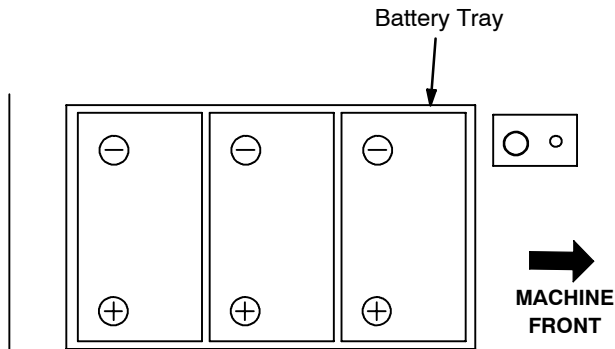

FIG. 3
- Carefully install batteries into battery tray and arrange battery posts as shown. After batteries are in place remove battery handles to allow clearance for battery hood (Figure 3).